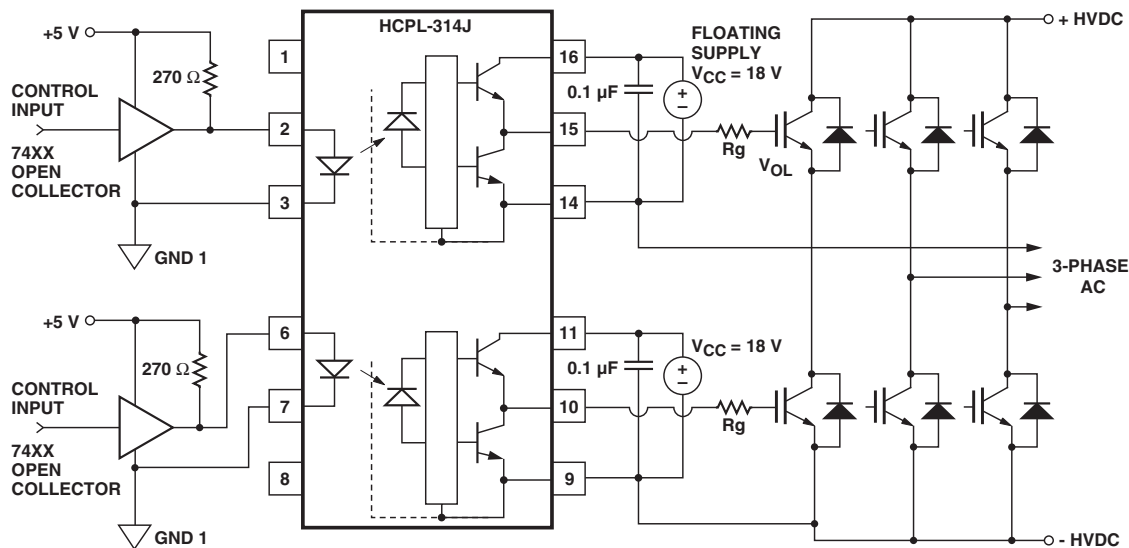
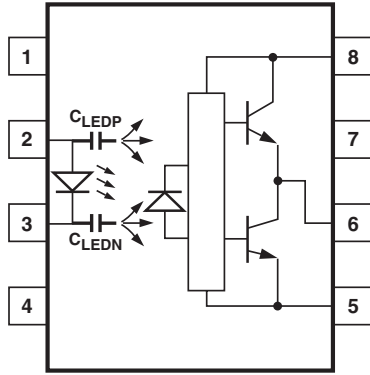
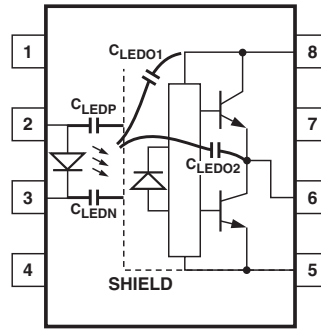
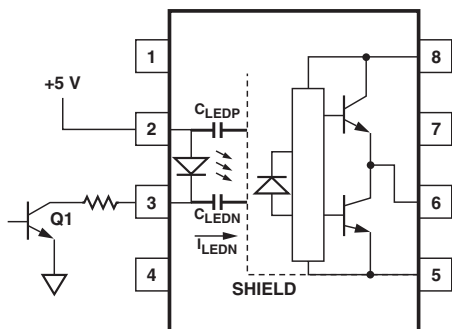

Figure 19. Recommended LED Drive and Application Circuit for HCPL-314J.
Figure 21. Optocoupler Input to Output Capacitance Model for Unshielded Optocouplers.
Figure 22. Optocoupler Input to Output Capacitance Model for Shielded Optocouplers.
Figure 24. Not Recommended Open Collector Drive Circuit.
To keep the IGBT firmly off, the HCPL-314J has a very low maximum V_{OL} specification of 1.0 V. Minimizing R_g and the lead inductance from the HCPL-314J to the IGBT gate and emitter (possibly by mounting the HCPL-314J on a small PC board directly above the IGBT) can eliminate the need for negative IGBT gate drive in many applications as shown in Figure 19. Care should be taken with such a PC board design to avoid routing the IGBT collector or emitter traces close to the HCPL-314J input as this can result in unwanted coupling of transient signals into
the input of HCPL-314J and degrade performance. (If the IGBT drain must be routed near the HCPL-314J input, then the LED should be reverse biased when in the off state, to prevent the transient signals coupled from the IGBT drain from turning on the HCPL-314J.) An external clamp diode may be connected between pins 14 & 15 and pins 9 & 10 (as shown in Figure 19) for the protection of HCPL-314J in the case of IGBTs switching inductive load.
Step 1: Calculate R_g minimum from the I_{OL} peak specification. The IGBT and R_g in Figure 24 can be analyzed as a simple RC circuit with a voltage supplied by the HCPL-314J.
where $K_{ICC} \cdot Q_g \cdot f$ is the increase in I_{CC} due to switching and K_{ICC} is a constant of 0.001 mA/(nC*kHz). For the circuit in Figure 19 with I_F (worst case) = 10 mA, R_g = 32 Ω, Max Duty Cycle = 80%, Q_g = 100 nC, f = 20 kHz and T_{AMAX} = 85°C:
Without a detector shield, the dominant cause of optocoupler CMR failure is capacitive coupling from the input side of the optocoupler, through the package, to the detector IC as shown in Figure 21. The HCPL-314J improves CMR performance by using a detector IC with an optically transparent Faraday shield, which diverts the capacitively coupled current away from the sensitive IC circuitry. However, this shield does not eliminate the capacitive coupling between the LED and optocoupler pins 5-8 as shown in Figure 22. This capacitive coupling causes perturbations in the LED current during common mode transients and becomes the major source of CMR failures for a shielded optocoupler. The main design objective of a high CMR LED drive circuit becomes keeping the LED in the proper state (on or off) during common mode transients. For example, the recommended application circuit (Figure 19), can achieve 10 kV/μs CMR while minimizing component complexity. Techniques to keep the LED in the proper state are discussed in the next two sections.
The open collector drive circuit, shown in Figure 24, can not keep the LED off during a $+dV_{CM}/dt$ transient, since all the current flowing through C_{LEDN} must be supplied by the LED, and it is not recommended for applications requiring ultra high CMR₁ performance. The alternative drive circuit which like the recommended application circuit (Figure 19), does achieve ultra high CMR performance by shunting the LED in the off state.